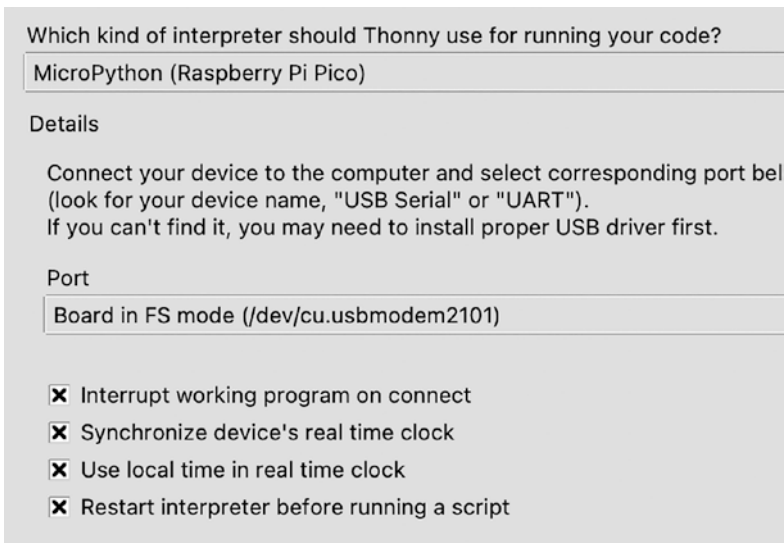

Figure 7-11. *Thonny options pop-up*
Step 1: Run Thonny and plug your Pico into your computer via the micro USB cable. Click in the bottom-right corner and select **Configure Interpreter** (Figure 7-11).